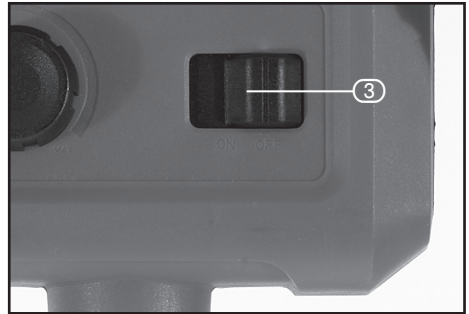

FIG.4
9.2 TURNING THE ENGRAVER/GRINDER ON/OFF – FIG.4
- To turn the tool ON: move the ON/OFF switch (3) to the ON position.
- To turn the tool OFF: move the ON/OFF switch (3) to the OFF position.